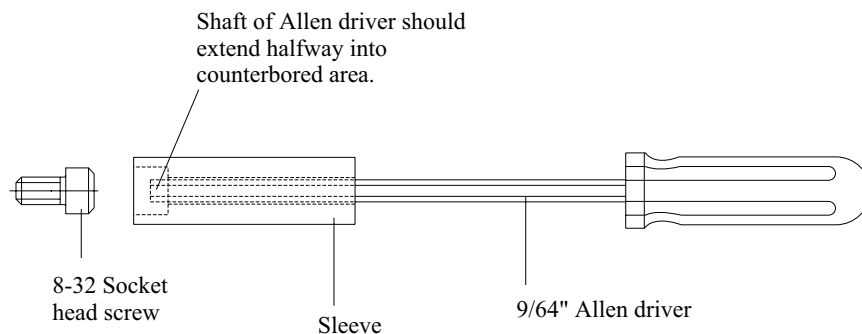

Figure 5-5. Detail of the sleeve on the Allen driver
Step 5: Now you are ready to remove the screws that secure the crucible to the crucible mounting flange. This procedure involves using the special Allen tool provided with the source, which consists of a standard 9/64" Allen driver with a sleeve fitted over the shaft (see Figure 5-5). If you are proficient in the use of this tool, skip the practice exercise described below and proceed directly to step 6 of this procedure. If you are not experienced with this tool, follow the instructions below.